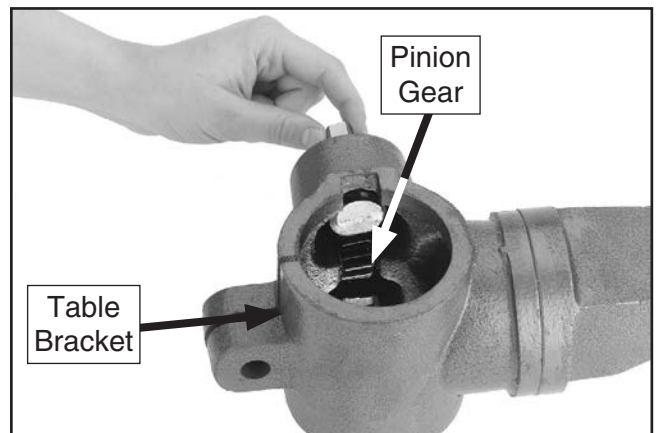

Figure 14. Pinion gear position.
3. Check to make sure the pinion gear is fully inserted into the hole on the side of the table bracket shown in **Figure 14**.